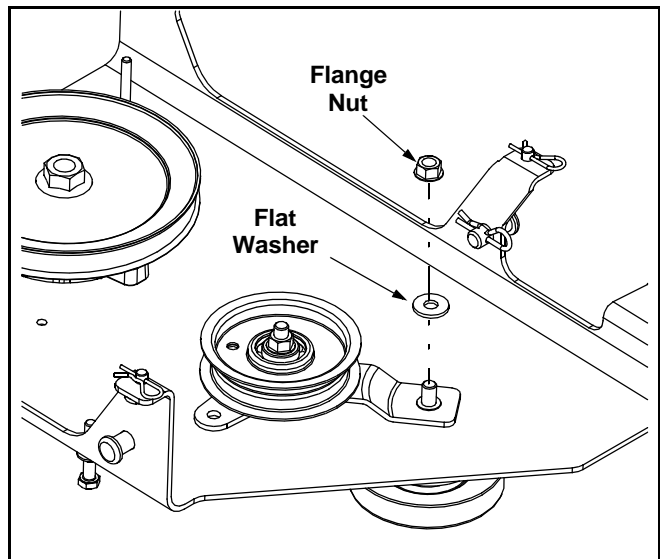

Figure 5
- Fasten the idler bracket to the undercarriage with the hardware just removed. See Figure 5.